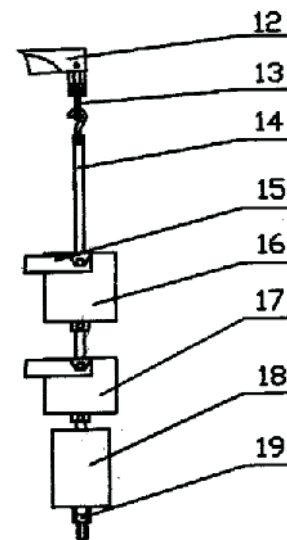

Figure 3
4 Installation of weights (figure 3):
2.Wrong order of weights placement.	2. Place weights according to figure 3.